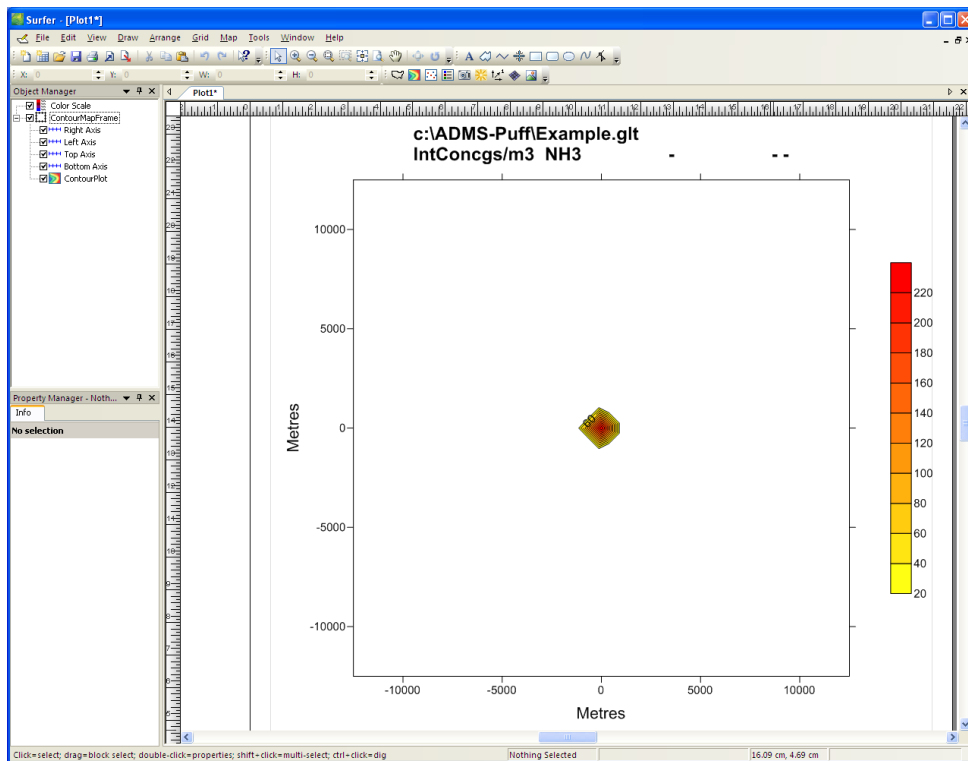
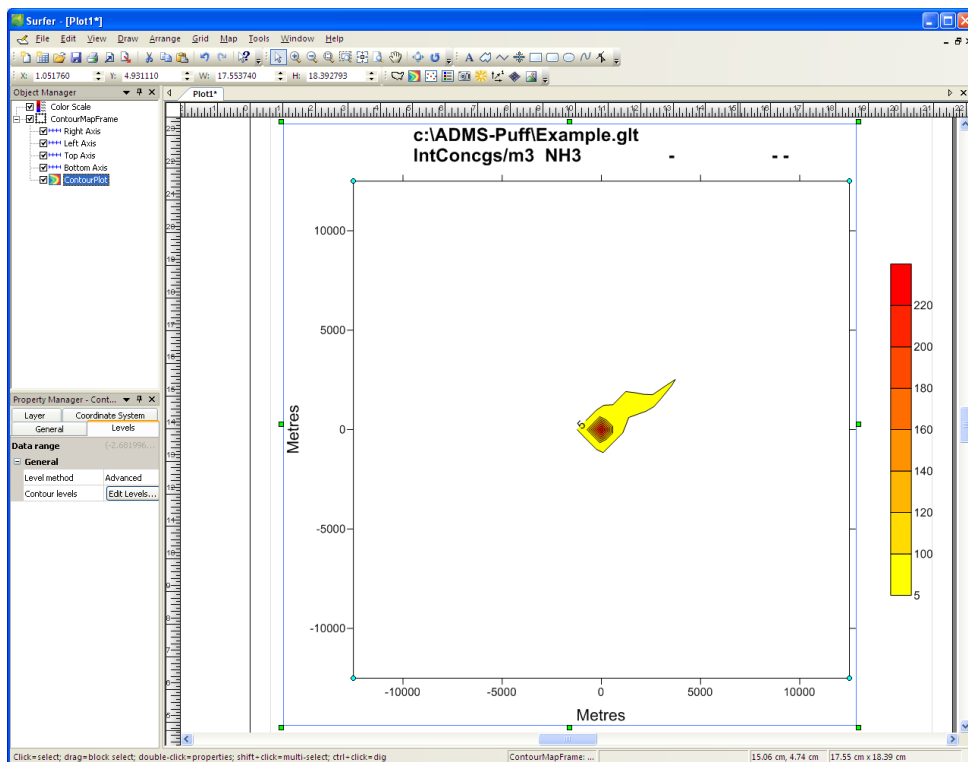

Figure 15: The contour plot produced by the utility.
Figure 16: Editing the contour plot in Surfer.
- c. A contour plot of the output will appear as shown in Figure 15. This can then be edited in Surfer as desired. See for example Figure 16.